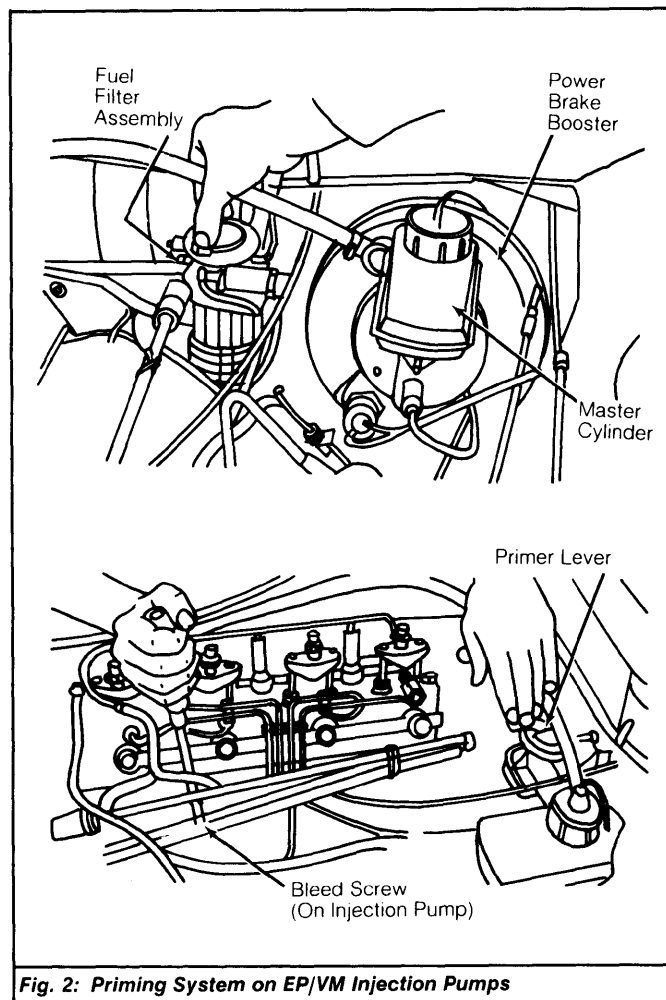

Fig. 2: Priming System on EP/VM Injection Pumps
- 2) On EP/VM injection pumps, loosen injection pump bleed screw and actuate pump lever until fuel flows bubble free. Tighten bleed screw on top of injection pump. See Fig. 2.